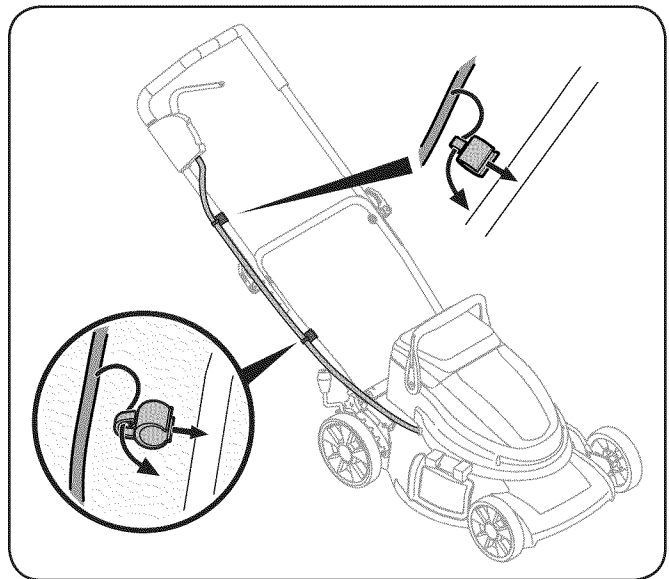

Figure 3-5
1. Snap one cord guide onto the lower handle and the other cord guide onto the upper handle. See Fig. 3-5.